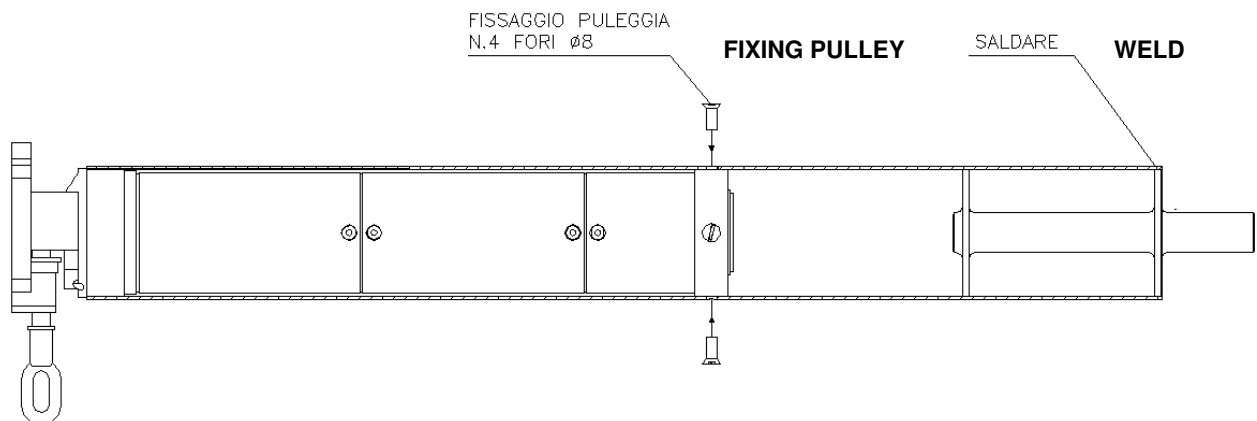

fig. 3
- Make 4 holes in the roller that correspond to the threaded holes in the pulley and insert the M8 screws included in the Kit. On the opposite side to the limit switch, fix by welding the roller with the flanged shaft; (fig.3)